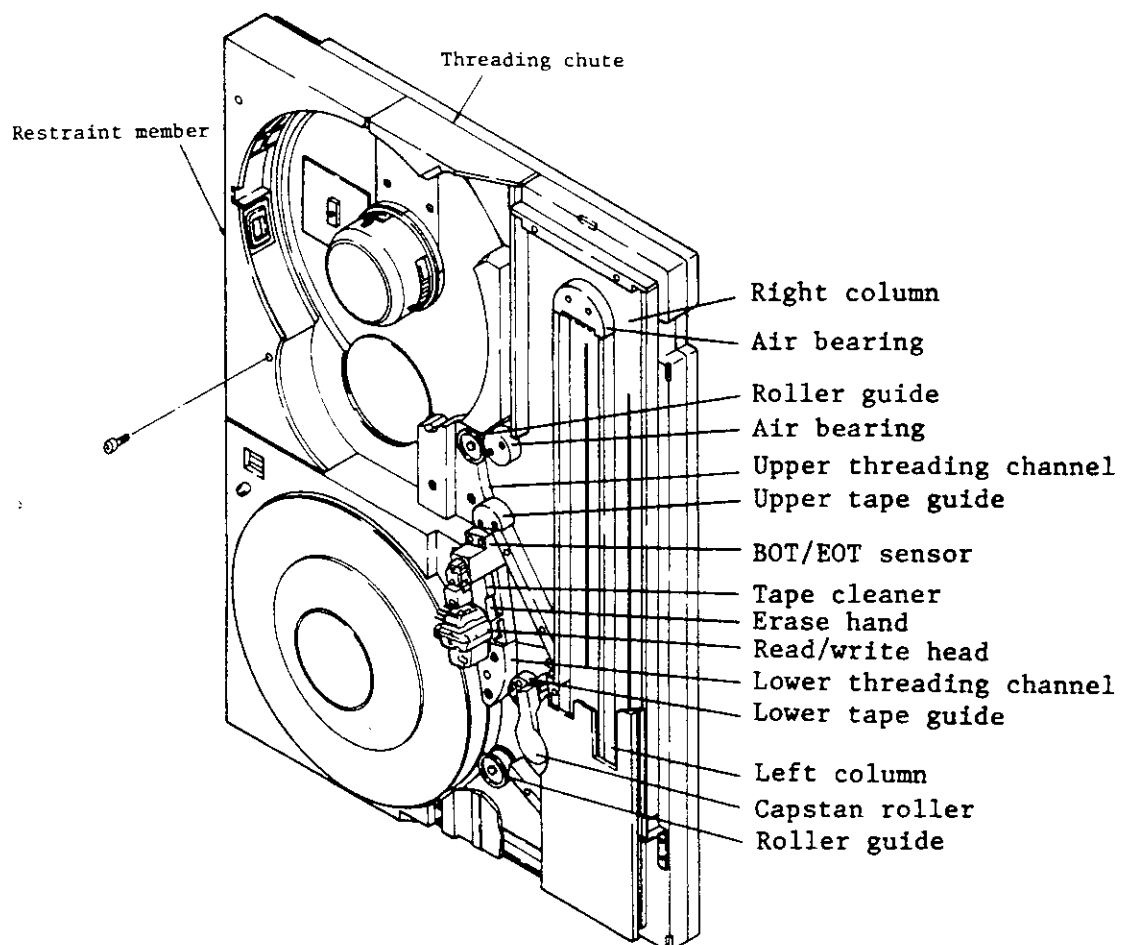

Figure J.1 MTU components requiring cleaning
This section contains instructions for MTU cleaning. Use the cleaning agent (solvent) that is supplied with the cleaner kit (B960-0110-T016A). In general, never apply rough or abrasive material or hard tools, such as metal bars, when cleaning MTU components. Clean the surfaces shown in Figure J.1 and listed below with a gauze cloth soaked in solvent.
J.5 Other MTU Components Shown in Figure J.1
- (1) Tape guide (upper and lower)
- (2) Air bearing (see two locations in Figure J.1)
- (3) Roller guide
- (4) Upper threading channel
- (5) Lower threading channel
- (6) Column interior
- (7) Glass cover
- (8) Photo sensor (beginning of tape and end of tape sensor).
The two air bearings shown in Figure J.1 should be removed and cleaned with a cotton swab, gauze cloth, or brush every 12 months.